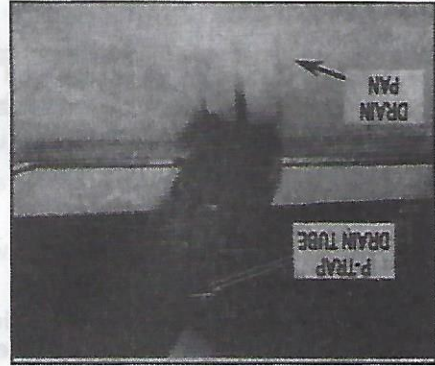

FIGURE 2
5. Snap the p-trap drain tube to the drain pan. See Figure 2.